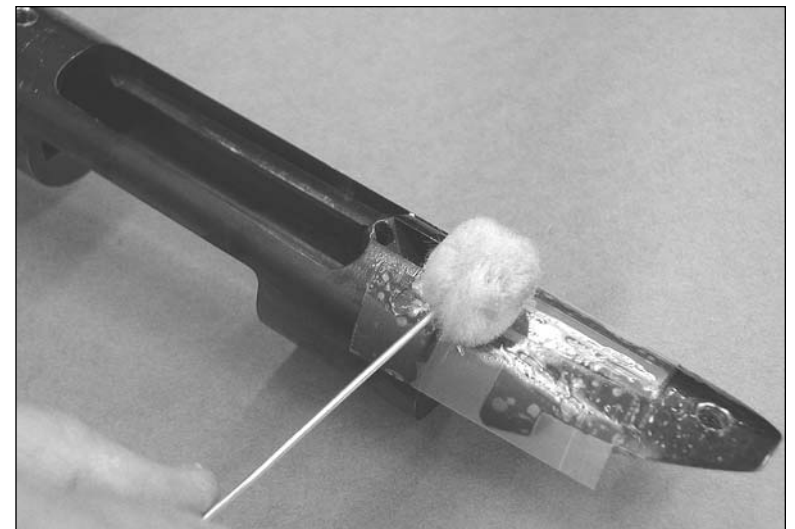

Figure 10D: Apply Release to the taped and plugged holes.
6. Make sure all surfaces are coated, including those areas where you applied modeling clay or tape. (See Figure 10D).